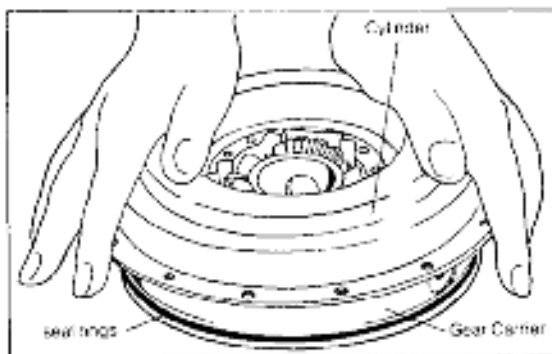

Fig. 25. Pressing Cylinder on Bevel Gear Carrier
- B. With forward side of gear carrier up, press cylinder on by hand (see fig. 25)